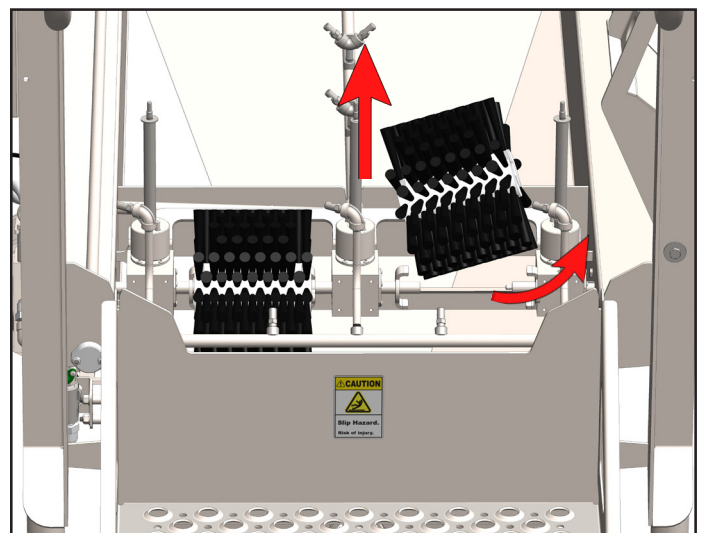

Fig. 11.2: Removing soles brushes (1 of 2)
4. Lift the first sole brush out of the tub by grabbing the open end and lifting up to clear the opposing drive shaft anchor [Figure 11.2].